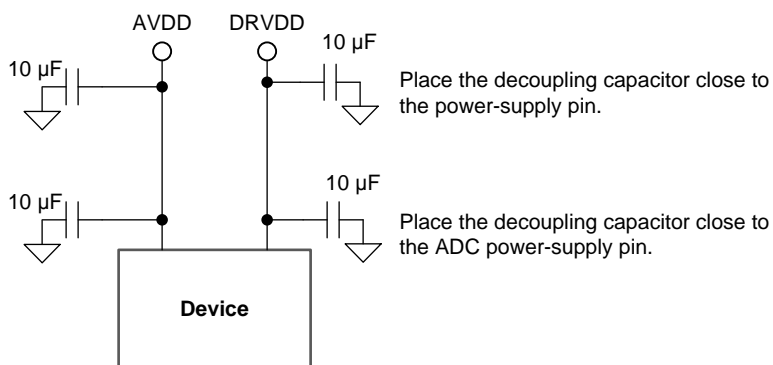

Figure 126. Recommended Placement of Power-Supply Decoupling Capacitors
- Connect decoupling capacitors directly to ground and place these capacitors close to the ADC power pins and the power-supply pins to filter high-frequency current transients directly to the ground plane, as illustrated in Figure 126.